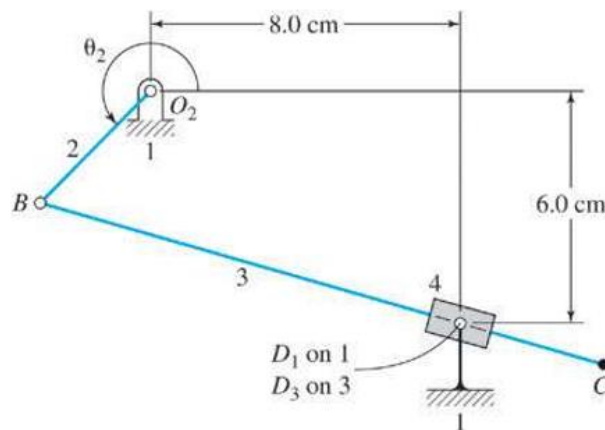

Fig. 3
3. For the mechanism as shown in Fig. 3, the origin of the coordinate system is on O_2 , and the x axis is along the horizontal and directs to the right. The angular positions of links 2 and 3 are measured CCW from (positive) x axis. The distance between O_2 and B is 5 cm, and that between B and C is 17 cm. If $\theta_2 = 210^\circ$, and $\omega_2 = 60$ rad/sec CW (constant), please write the **vector equation** for the linkage shown and determine analytically the angular position, velocity, and acceleration of link 3.